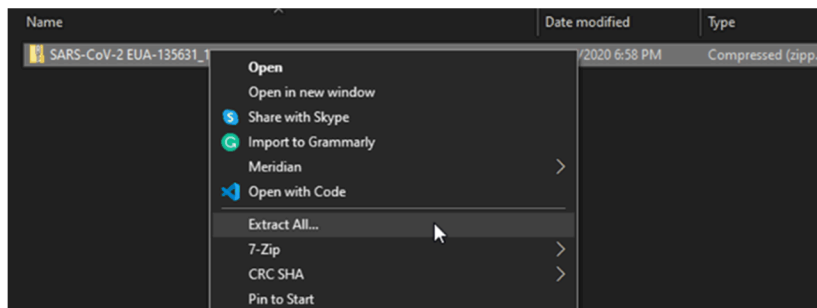

Figure 22. Extract Menu
- a. To unzip the file, right-click on the SARS-CoV-2 EUA zip file and tap <Extract All...> (Figure 22).